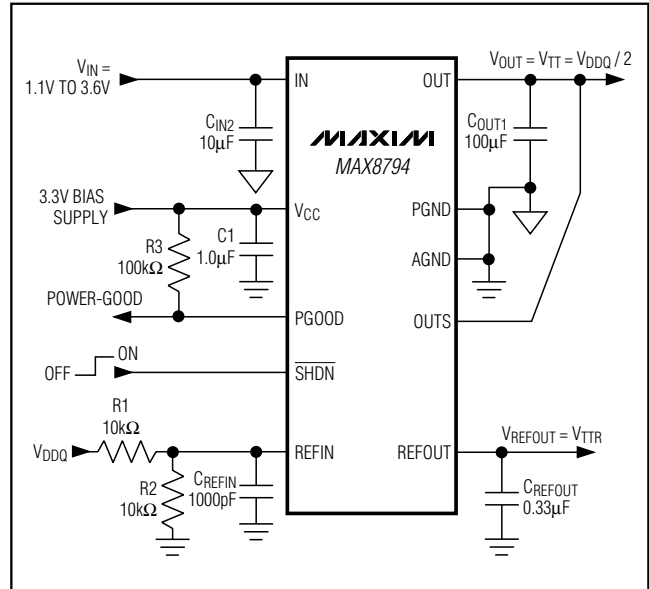

Figure 1. Standard Application Circuit
($V_{IN} = 1.8\text{V}$, $V_{CC} = 3.3\text{V}$, $V_{REFIN} = V_{OUTS} = 1.25\text{V}$, $\overline{\text{SHDN}} = V_{CC}$, circuit of Figure 1, $T_A = -40^\circ\text{C}$ to $+85^\circ\text{C}$, unless otherwise noted. Typical values are at $T_A = +25^\circ\text{C}$.) (Note 1)
($V_{IN} = 1.8V$, $V_{CC} = 3.3V$, $V_{REFIN} = V_{OUTS} = 1.25V$, $\overline{SHDN} = V_{CC}$, circuit of Figure 1, $T_A = -40^{\circ}C$ to $+85^{\circ}C$, unless otherwise noted. Typical values are at $T_A = +25^{\circ}C$.) (Note 1)
(Circuit of Figure 1. $T_A = +25^\circ\text{C}$, unless otherwise noted.)
The MAX8794 is a low-voltage, low-dropout DDR termination linear regulator with an external bias supply input and a buffered reference output (see Figures 1 and 2). V_{CC} is powered by a 2.7V to 3.6V supply that is commonly available in laptop and desktop computers. The 3.3V bias supply drives the gate of the internal pass transistor, while a lower voltage input at the drain of the transistor (IN) is regulated to provide V_{OUT} . By using separate bias and power inputs, the MAX8794 can drive an n-channel high-side MOSFET and use a lower input voltage to provide better efficiency.
The MAX8794 regulates OUTS to the voltage set at REFIN, making the MAX8794 ideal for memory applications where the termination supply must track the supply voltage. Typically, REFIN is set by an external resistive voltage-divider connected to the memory supply (VDDQ) as shown in Figure 1.